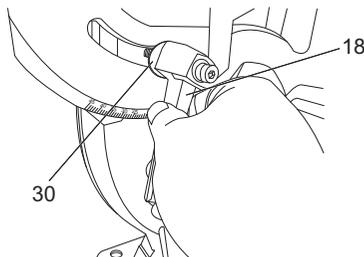

Fig. 4
- > The fixing handle (18) is spring loaded.
- > Pull the fixing handle (18) outward from the thread. This disengages the fixing handle (18) from the thread. Located the flat washer M10 (30), offer the thread to the hole and tighten the thread with the 4mm hex key. (Fig. 4)